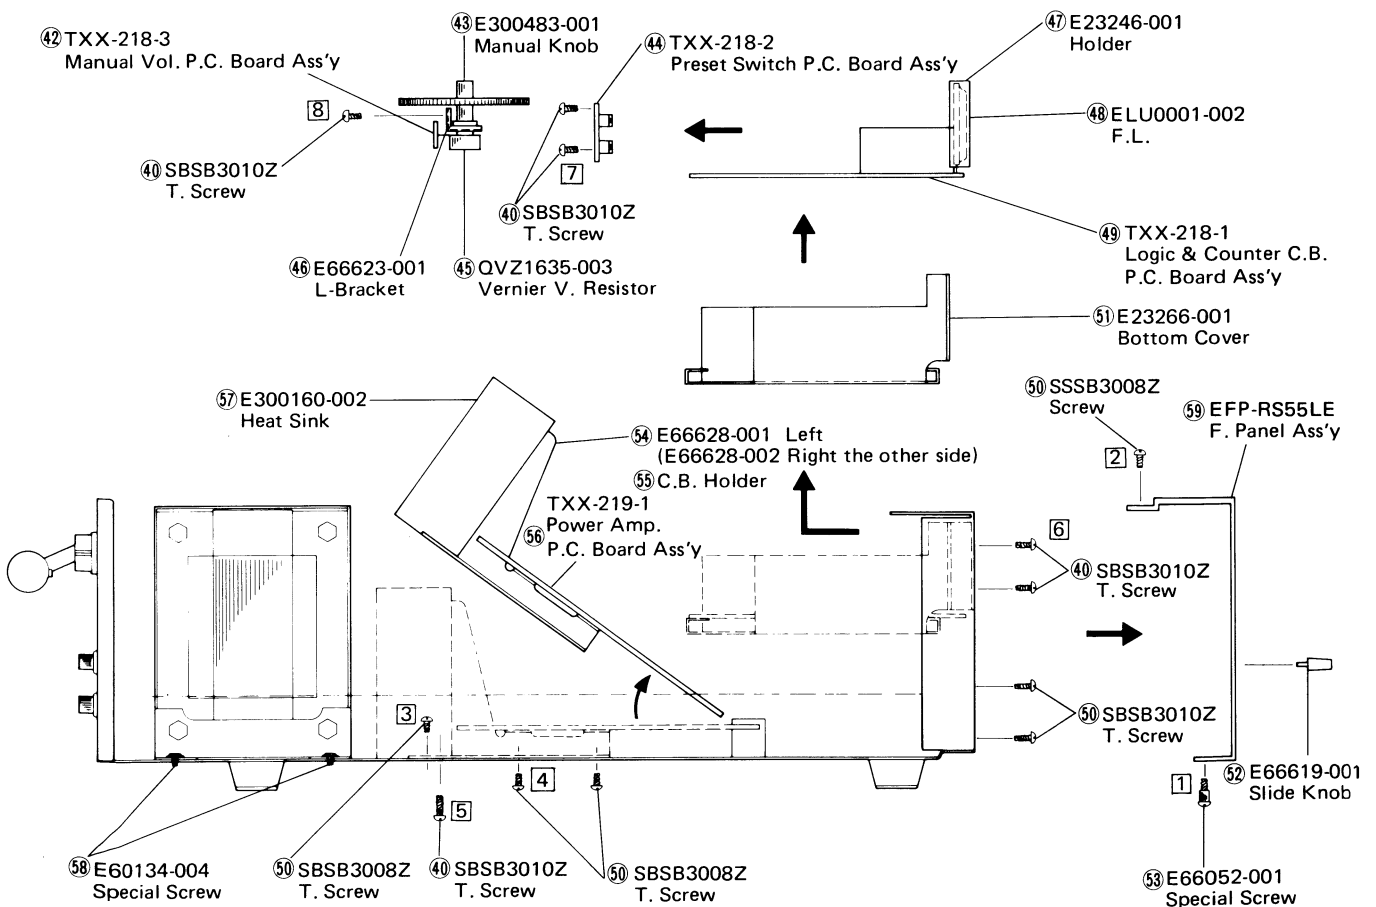

Fig. 6
1. Remove 3 Screws 1 of Fig. 6
2. Remove 3 Screws 2 of Fig. 6
1. Remove 2 screws **3** of Fig. 6.
2. Remove 4 screws **4** of Fig. 6.
3. Remove 2 screws **5** of Fig. 6.
4. Pull the C.B. as shown Fig. 6 out.
2. Remove 6 screws [1] of Fig. 7 ([6] of Fig. 6) to take the Holder with this P.C Board Ass'y
- Remove 3 screws [3] of Fig. 7. ([7] of Fig. 6)
- Remove 2 screws [4] of Fig. 7 ([8] of Fig. 6).